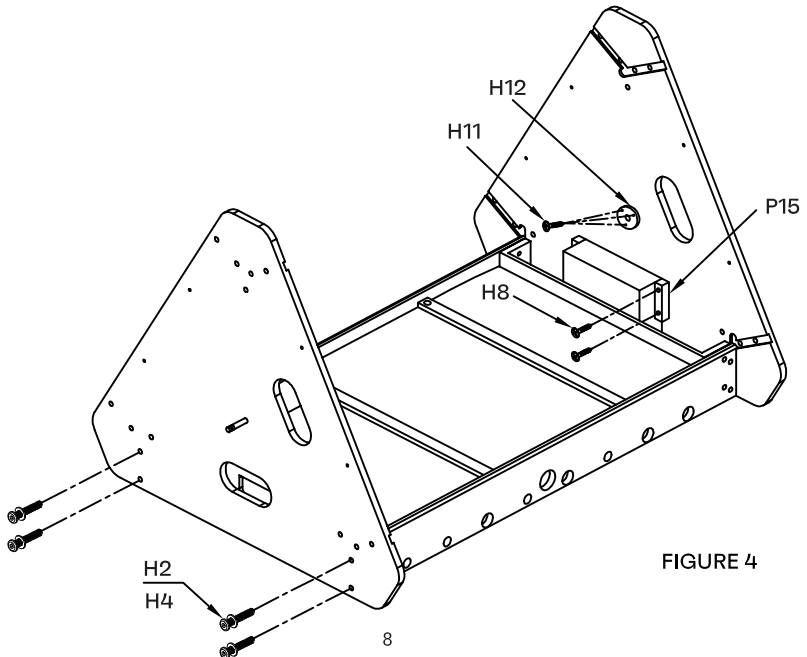

FIGURE 4
12. Attach the soccer table to the triangular panel A and B with H2 and H4 as shown in figure 4 (do not over-tighten hardware).